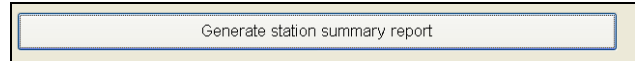

Figure 34.0.10
- Click on the **Generate station summary report** button (Figure 34.0.10).